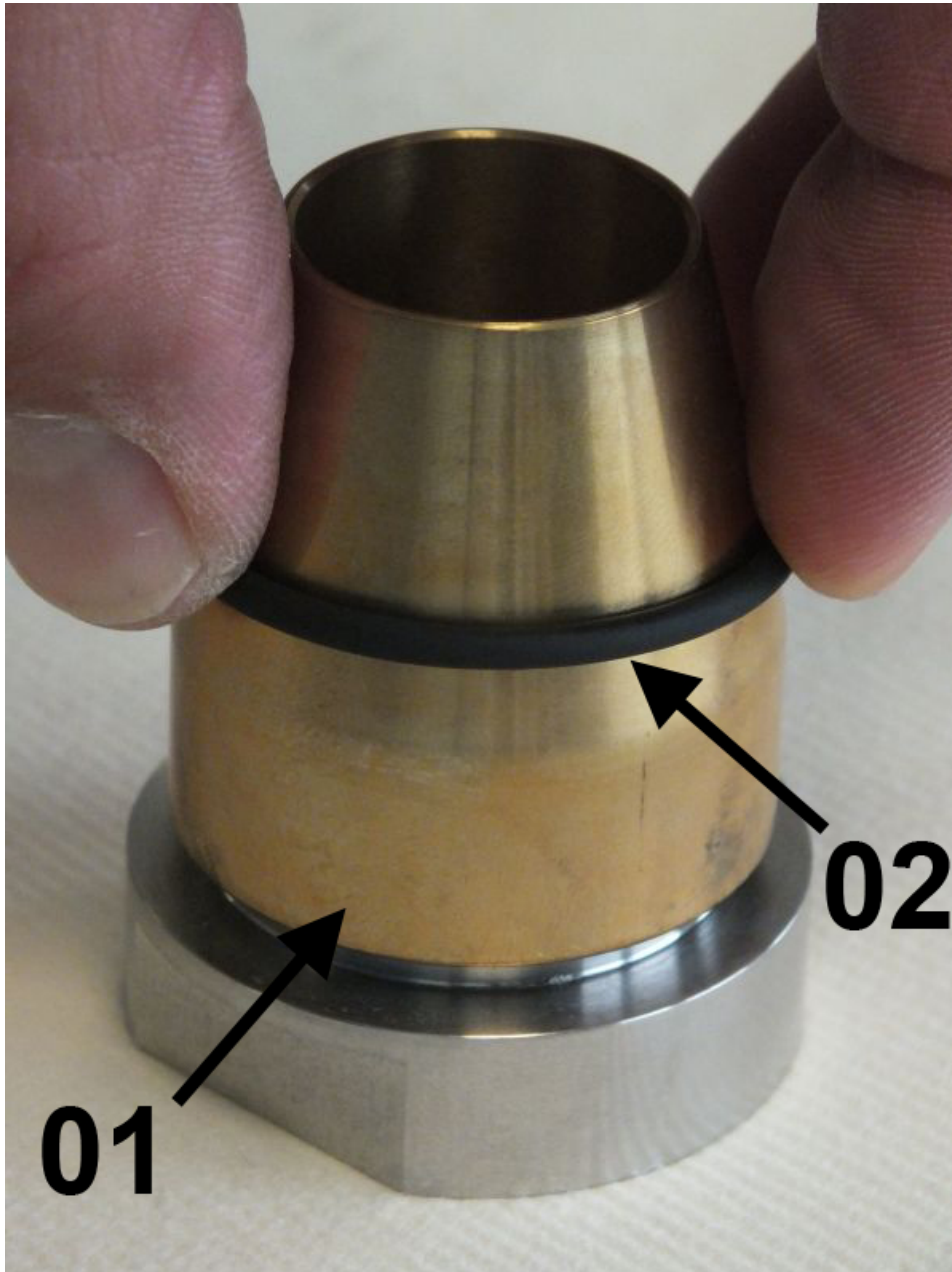
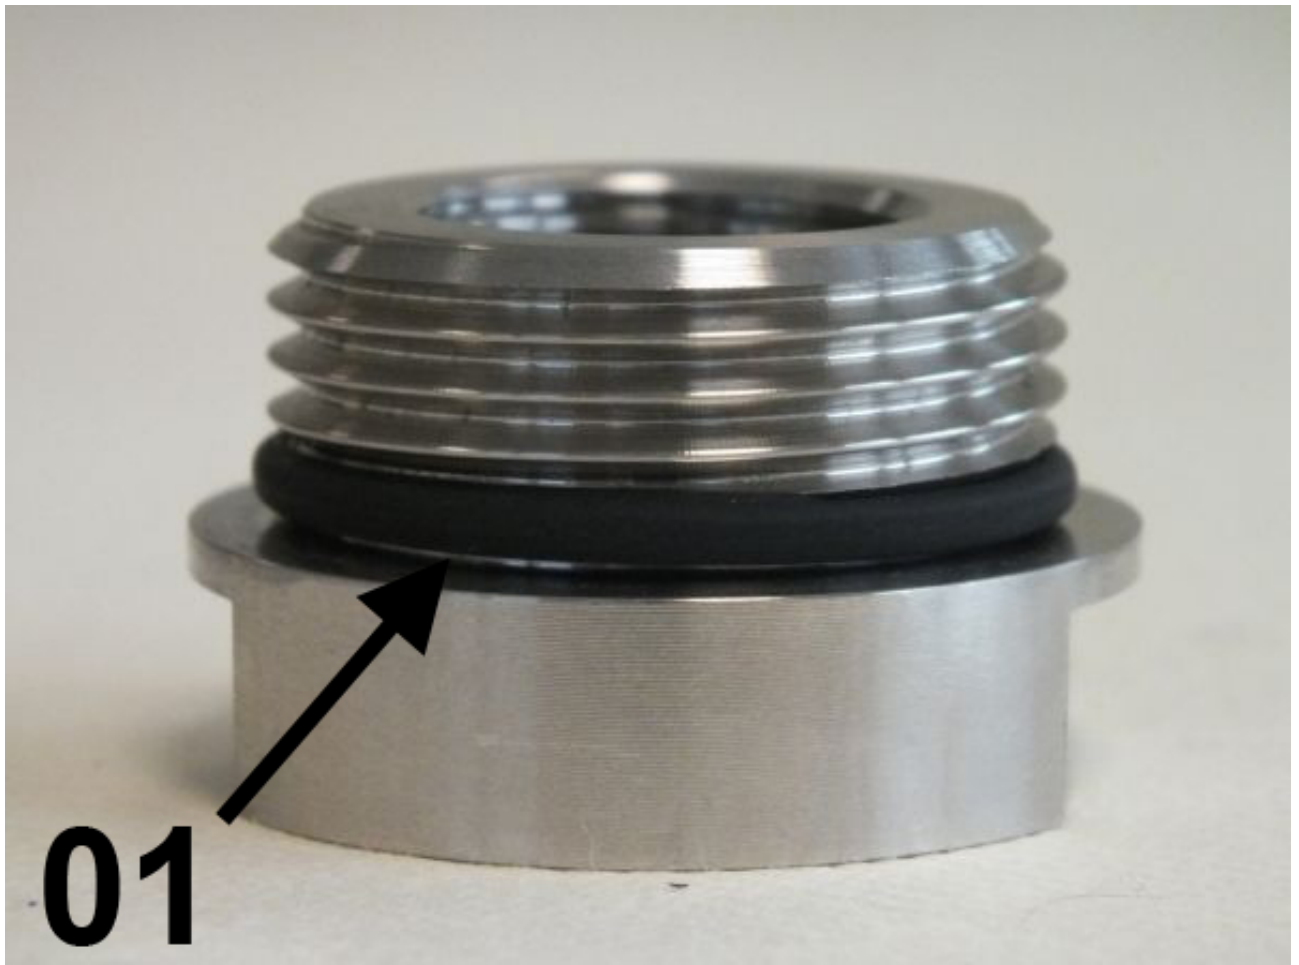

Fig. 53: O-ring (seal)
Fig. 54: Properly positioned O-ring
1. Carefully install the O-rings (*Fig. 53/02*) with the aid of the O-ring installation tool (*Fig. 53/01*) onto both process connections (inlet and outlet), so that they are properly seated in the O-ring grooves of the process connection (*Fig. 54/01*). When doing so, be careful not to overstretch the O-rings.
- 2.** → Position the O-ring properly on the process connection (*Fig. 54/01*)